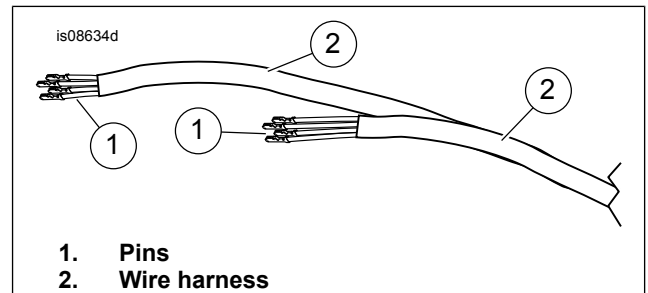
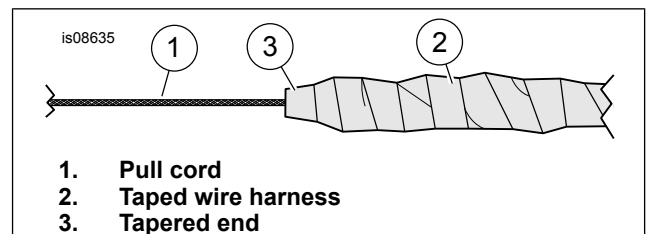

Figure 1. Pins and Wire Harness
Figure 2. Pull Cord and Wire Harness
- See Figure 1. Stagger the pins (1) so they are not in the same locations along the harness (2). See Figure 2. String a suitable cord (1) through the handlebar. Tie the cord to the wire harness. Wrap tape (2) over the harness and pins. Tape should come to a taper (3) and be flexible to ease pulling through the handlebar. Pull the cord through the bar to route the wire bundle to the proper exit point.